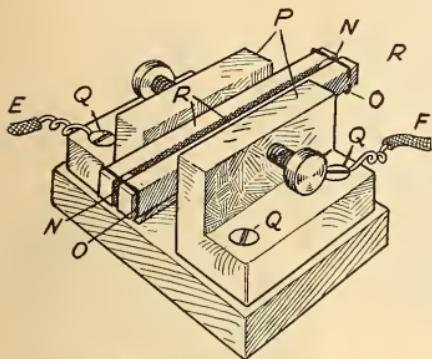

Fig. 2. Micrometer in Detail
A current of four amperes at 110 volts, 60 cycles, is connected by wires (A) and (B) to primary (C) of a $\frac{1}{4}$ kilowatt transformer. From the secondary (D), wires connect to the terminals (E) and (F) of a micrometer gap shown in detail in Fig. 2. This gap is made by taking two